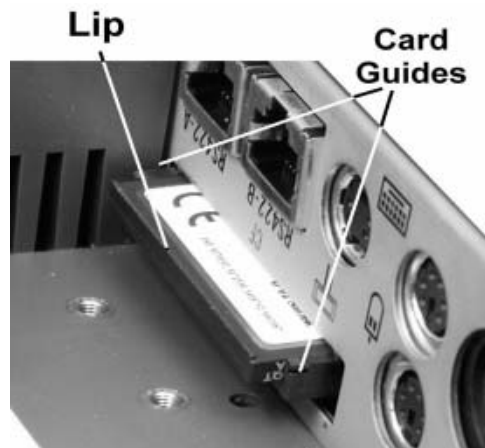

Figure 3-13: Removing the Personality Card
- Figure 3-13 shows the personality card with the bracket removed. Note the keying lip on the bottom of the card and the guides that hold it in place.
5. Remove the card from the inoperative KWS4. Use your thumbnail or pen to catch the lip and remove the card from the socket. Figure 3-13. *Hold on to this card - it must be inserted into the replacement KWS4.*